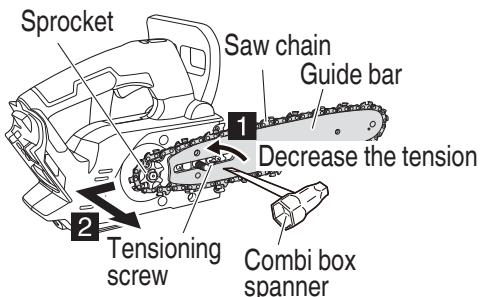

Fig. 12
2. Removing the saw chain and guide bar (Fig. 12)